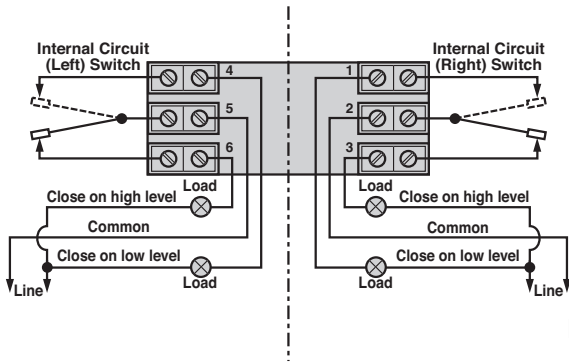

Figure 2
5. The switch terminals are located next to the conduit outlet to facilitate wiring. Bring supply wires through conduit outlet. Route extra wire around enclosing tube under the baffle plate and connect them to the proper terminals. Refer to **Figure 2 or 3** or your switch bulletin for this information. See *Switch and Housing Reference, Section 6.2.2*.